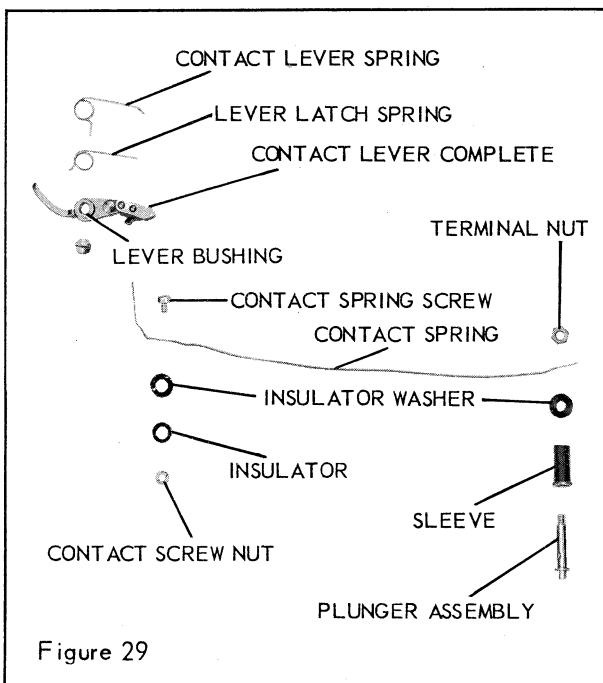

Figure 29
3. Trigger latch, with the long bent end of the latch contacting the inner edge of the CONTACT LEVER COMPLETE, figure 29. Be sure the latch does not bind.
4. TERMINAL NUT, figure 29.
1. If a new contact lever is to be used, place the contact LEVER LATCH SPRING, figure 29, on the contact LEVER BUSHING, with the long end of the spring at the bottom. Lift the long end of the spring and rest it against the outside edge of the spring lug on the contact lever latch. Form the short end of the spring around the vertical part of the contact lever tail. Then place the CONTACT LEVER SPRING on the contact lever bushing. Bend the last 1/8 inch of the long end of the spring clockwise at least 15 degrees.
1. Place the contact LEVER LATCH SPRING, figure 29, on the contact LEVER BUSHING, with the long end of the spring at the bottom. Lift the long end of the spring and rest it against the outside edge of the spring lug on the contact lever latch. Form the short end of the spring around the vertical part of the contact lever tail. Then place the CONTACT LEVER SPRING on the contact lever bushing. Bend the last 1/8 inch of the long end of the spring clockwise at least 15 degrees.